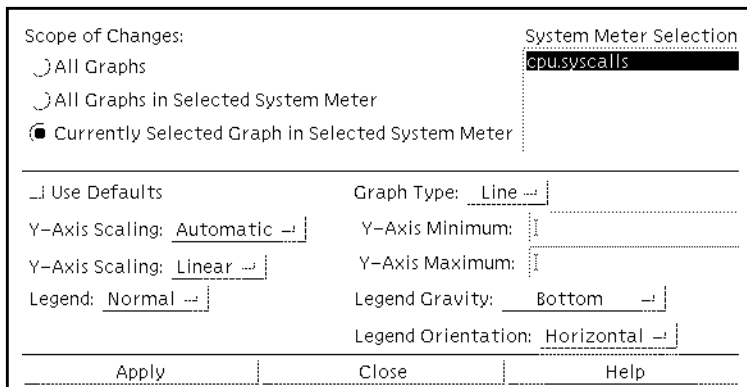

FIGURE 3-21 Graph Style Window Under the View Menu
The Graph Style window is displayed (see FIGURE 3-21).
1. Select the System Meter using the “System Meter Selection” field (FIGURE 3-21).
2. **Select the graphs that you want to change, using the top section of the window (see FIGURE 3-21).**